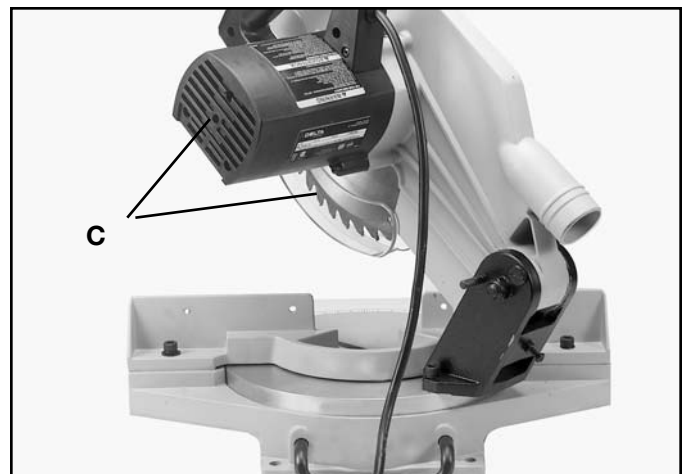

Fig. 4
2. The cuttinghead (C) can then be moved to the up position, as shown in Fig. 4.